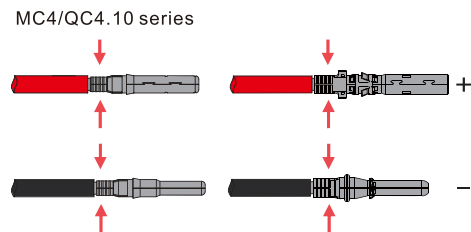

Figure 4.1-2 PV cables to PV connectors
**Step 2.** Connect PV cables to PV connectors. See Figure 4.1-2.